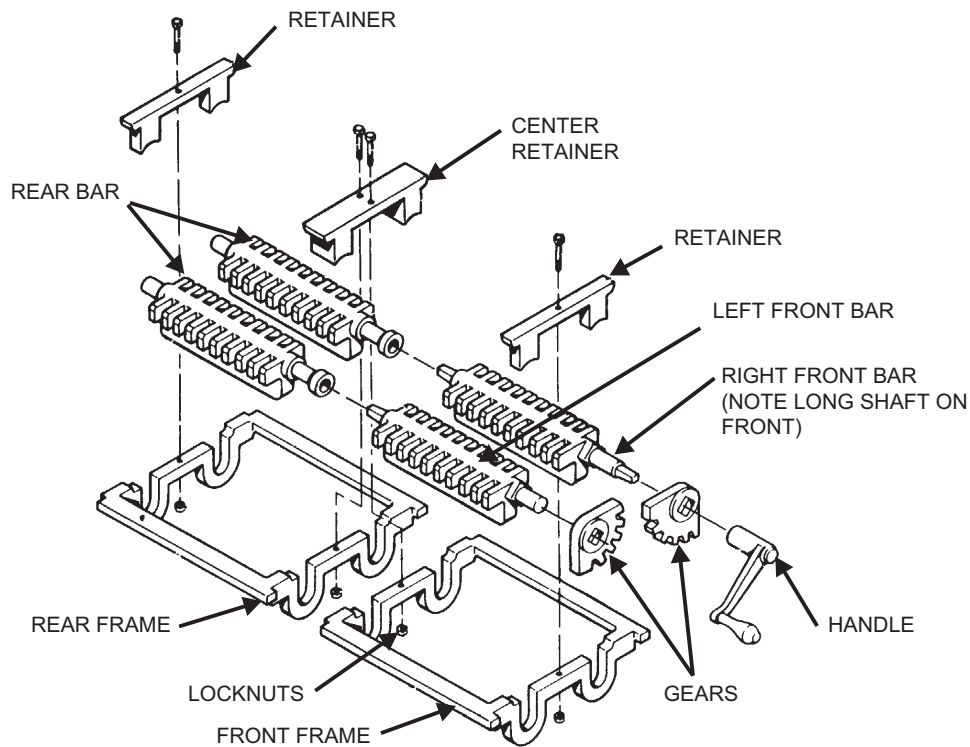

FIGURE 16 INSTALL OPTIONAL SHAKER GRATE FOR MODEL 526
1. Remove standard grates from firebox. Assemble complete shaker grate kit outside of unit. Figure 16.